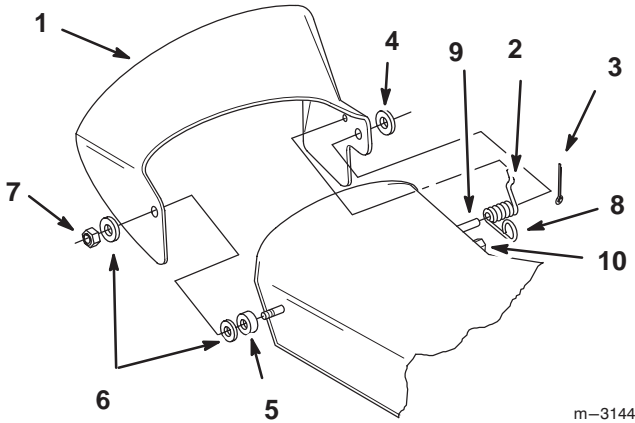

Figure 2
- Place the short end of the spring into the small hole in the discharge chute (Fig. 2).
- Position the spring and discharge chute over the post on the rear of the mower and secure them with a washer (1/2 in.) and a cotter pin (3/4 in.) (Fig. 2).
- Place the discharge chute over the stud and secure it with a second nylon washer and a locknut (3/8 in.) (Fig. 2).